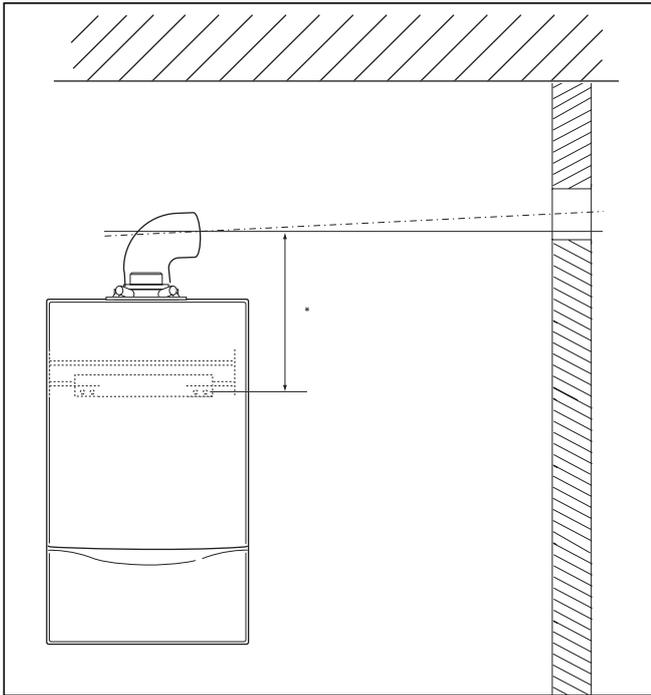

Fig. 2.7 Distance between hanging bracket and wall break-through
- The position of the flue exit hole should allow the flue to be installed with an upwards slope towards the terminal of approximately $3^\circ \pm 1^\circ$, equivalent to $50 \text{ mm} \pm 20 \text{ mm}$ rise per metre of flue length. Calculate the required rise according to the flue length and mark the position of the flue exit hole (fig. 2.7).